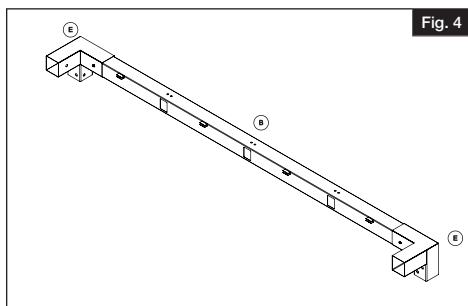

Fig. 4
Attach remaining corner brackets (E) to the remaining outer rail (B) (Fig. 4).
Fije las riostras esquineras restantes (E) al travesaño exterior restante (B) (Fig. 4).